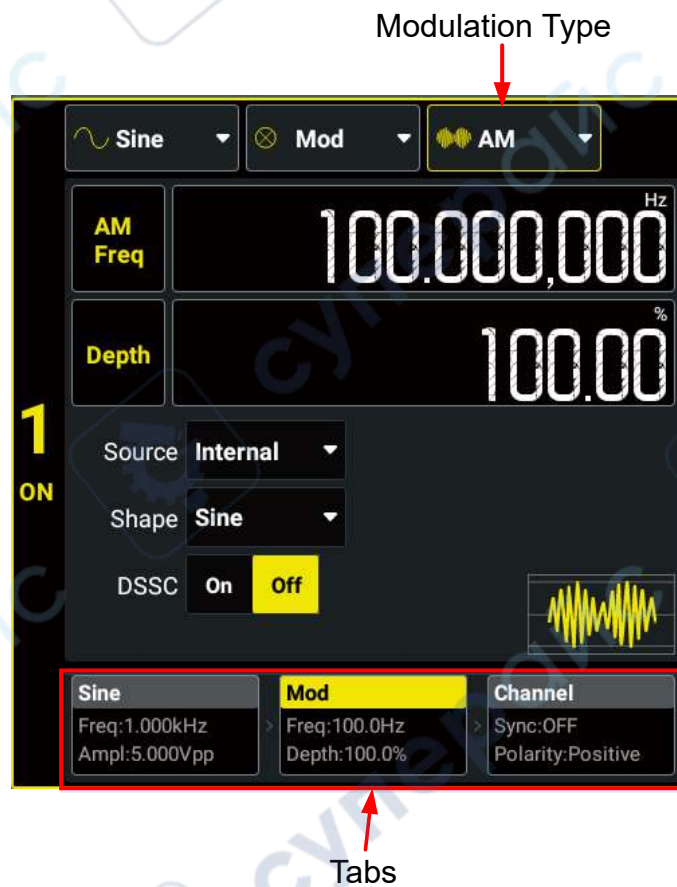

Figure 6.1 Modulation Setting Interface
Interface" (*Figure 6.1*), click or tap the "Modulation Type" drop-down button to select "AM" and set its parameters.
In Frequency Modulation (FM), a modulated waveform consists of a carrier waveform and a modulating waveform. The frequency of the carrier waveform is varied by the instantaneous voltage of the modulating waveform. In the "Modulation Setting Interface" (Figure 6.1), click or tap the "Modulation Type" drop-down button to select "FM" and set its parameters.
In Phase Modulation (PM), a modulated waveform consists of a carrier waveform and a modulating waveform. The phase of the carrier waveform is varied by the instantaneous voltage of the modulating waveform. In the "Modulation Setting Interface" (*Figure 6.1*), click or tap the "Modulation Type" drop-down button to select "PM" and set its parameters.
With Amplitude Shift Keying (ASK), you can configure the instrument to "shift" its output amplitude between two preset values (called the "carrier amplitude" and the "modulation amplitude"). In the "Modulation Setting Interface" (*Figure 6.1*), click or tap the "Modulation Type" drop-down button to select "ASK" and set its parameters.